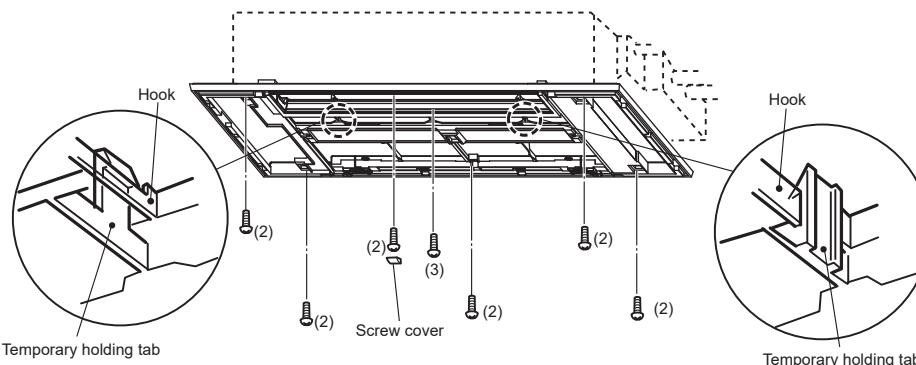

Fig. 5
5. Attach the temporary holding tabs on the grille to the hooks on the indoor unit. (Fig. 5)
- Loosely install the 4 fixing screws (2) near the corners. (Fig. 5)
7. Tighten the fixing screws (2) and the fixing screw (3) at the middle of the grille. (Fig. 5)